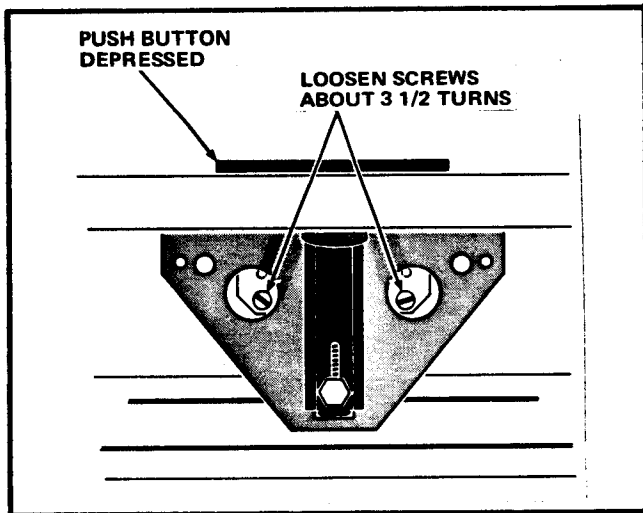

FIGURE 15
4. Depress and hold the Push Button depressed to expose the two Screws on the Extension Assembly. Loosen the Screws about 3 1/2 turns. Do not remove the Screws. The Screws retain the position of the Cable as it passes over the Cable Guides on the Extension Assembly. See Figure 15.